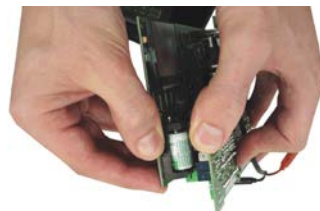

Figure 105: How to remove the lithium battery
- connecting the link between the **B** and **C** terminals but disconnecting the internal battery connector (Figure 105). If desired the internal battery can then be removed altogether. This is the preferred option because then the **VBAT** channel type can be used to monitor the state of the external battery; see *Monitoring DT80 Power* (P290).